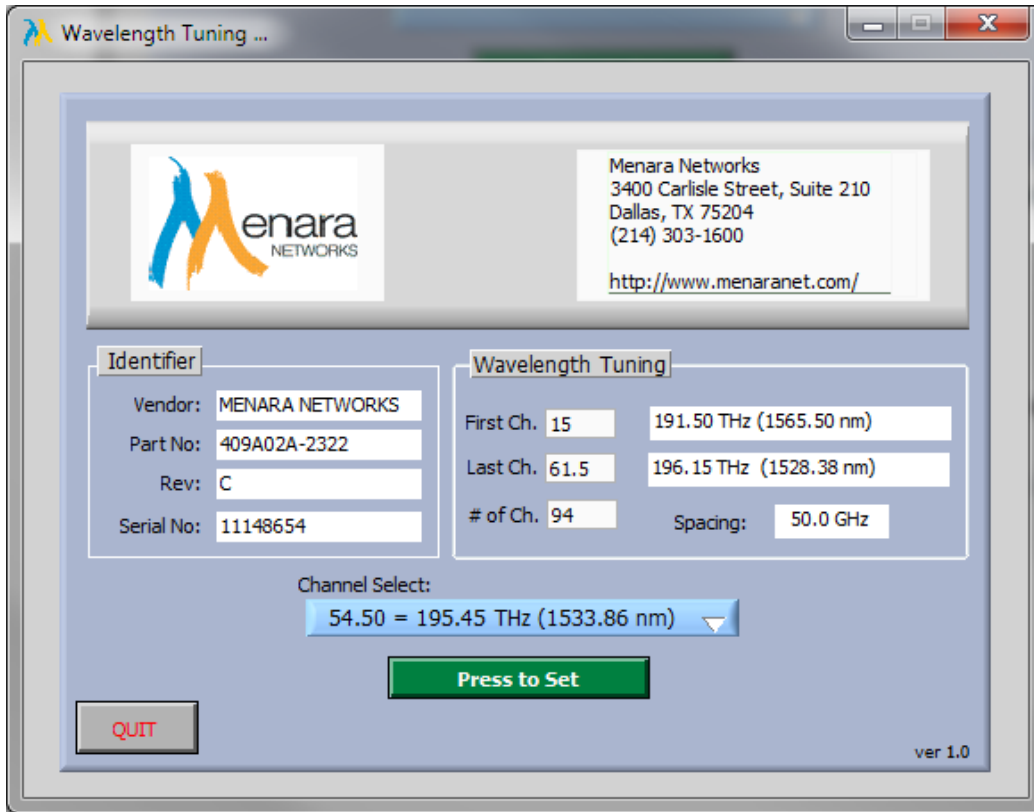

Figure 8: Wavelength Tuning GUI – Current Channel
2. Insert a tunable OTN XFP to the host board (Left side slot). The GUI reads and displays the current channel as in Figure 8.